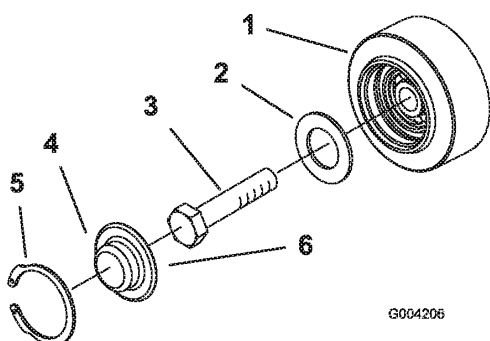

Figure 42
- Remove the snap ring and cap from a road wheel (Figure 42).
- Check the grease under the cap and around the gasket (Figure 42). If it is dirty, gritty, or depleted, clean out all of the grease, replace the gasket, and add new grease.
- Place the greased road wheel cap over the bolt head (Figure 42).
- Secure the road wheel cap with the snap ring (Figure 42).